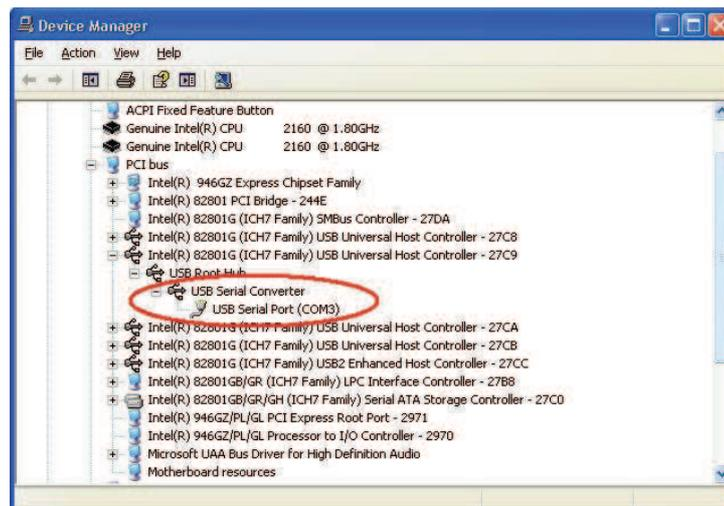

Figure 2.13
- Open the Device Manager (located in "Control Panel\System" then select the "Hardware" tab and click "Device Manger") and select "View > Devices by Connection", the device appears as a "USB Serial Converter" with an additional COM port with the label "USB Serial Port" (Figure 2.13). If the device is based on the FT2232, two ports will be available from a composite USB device.